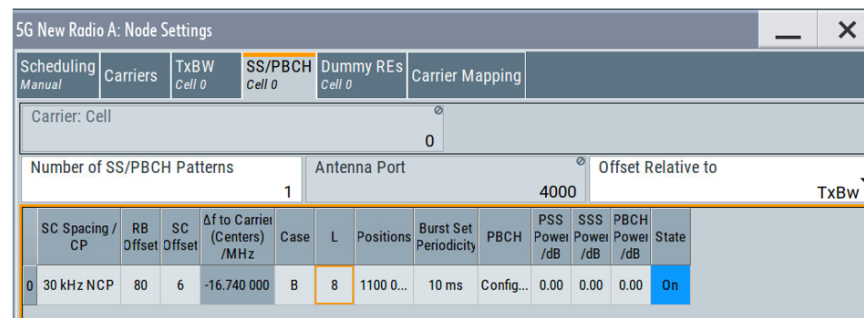

Fig. 2-4: Node settings window configuration for SS/PBCH
- 1 Select SC spacing: 30 KHz NCP, RB offset:80, SC offset: 6, Case: B, Position: 1100 0000 as shown in Fig. 2-4